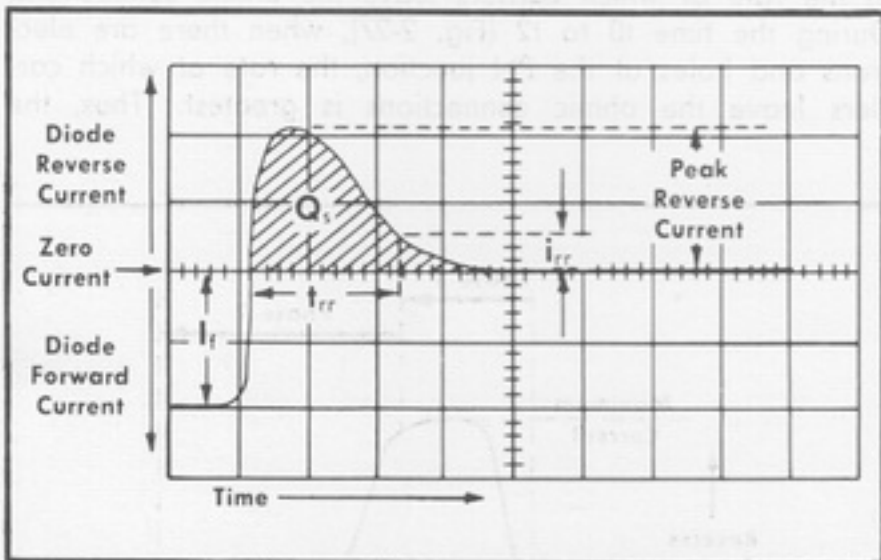

Fig. 2-30. Diode reverse recovery switchin display.
Stored Charge (Q_s)—Amount of charge stored by the diode, and recovered during reverse recovery. Represented by shaded area in Fig. 2-30, and usually stated in coulombs.
8. Turn the pulse generator on, and set the oscilloscope triggering controls for a display similar to that shown in Fig. 2-30. Use this display to measure the reverse-recovery switching characteristics of diodes whose V_{r} (then E_{gen}) is known. Proceed to step 9 if the peak reverse current is known.